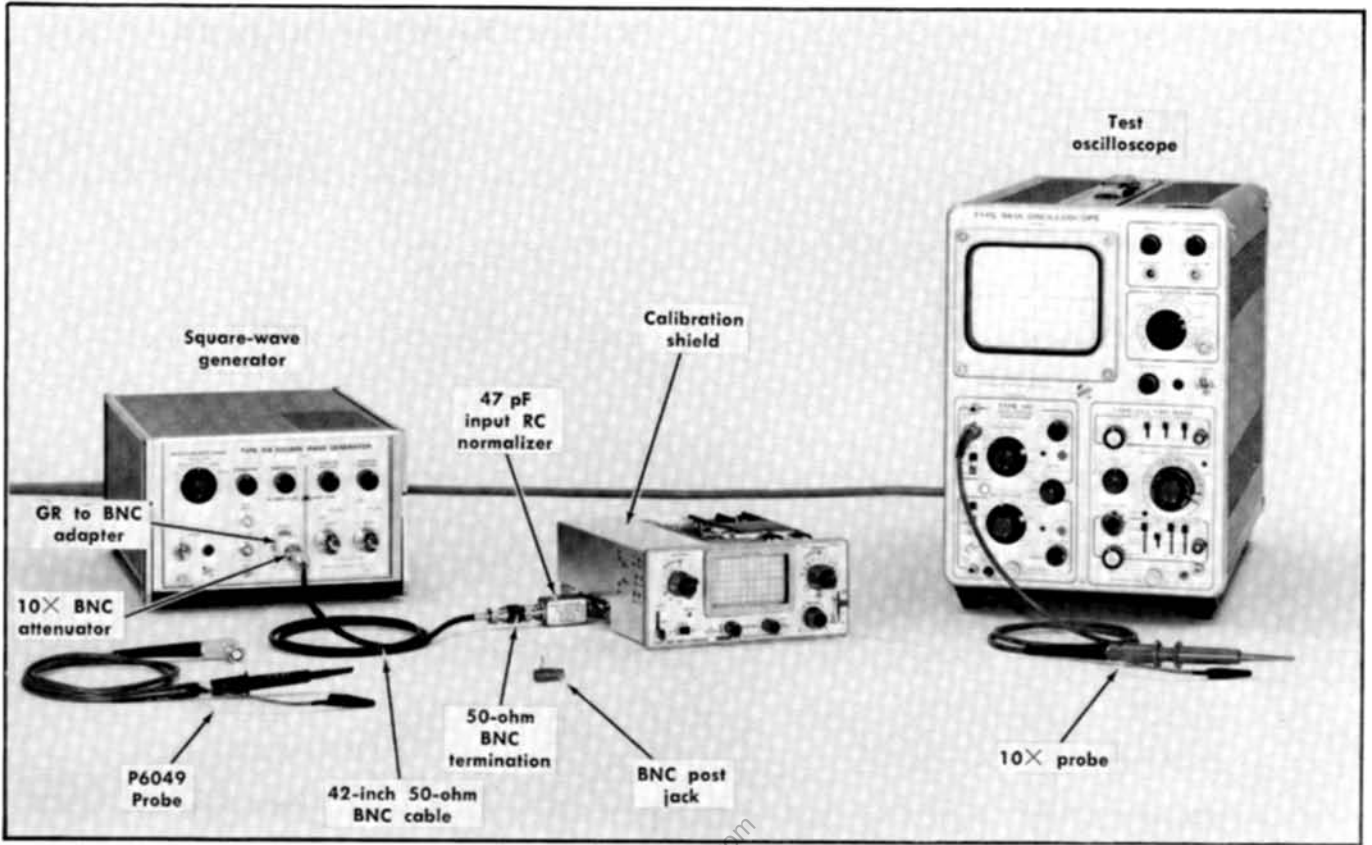

Fig. 6-8. Initial test equipment setup for steps 23 through 27.
- a. Test equipment setup is shown in Fig. 6-8.